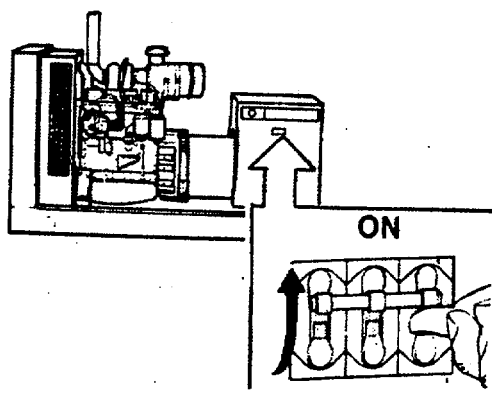

FIGURE 3-22. Applying a Load to the Generator Set.
- (b) Load may now be applied to the generator set. If necessary, repeat steps 1 and 2 until optimum performance is obtained. Normally, the critical condition for CAIN and STABILITY adjustment is at NO load. (FIGURE 3-22)